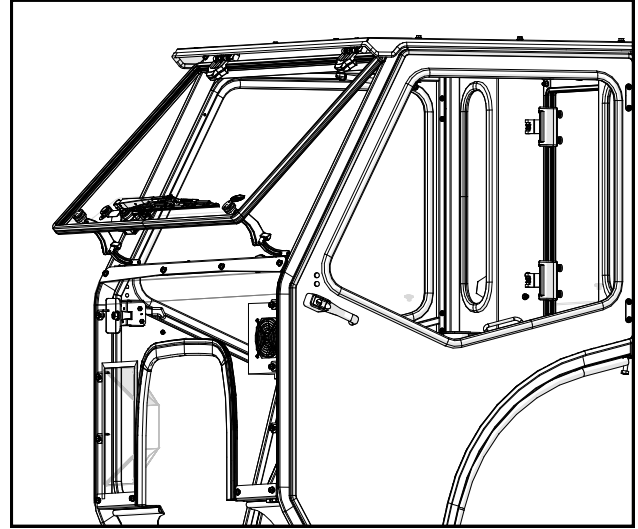

Fig. 26.4 (Install ROPS Mounted Toolbox)
- 26.4** Install the Toolbox Relocation Bracket to the ROPS using the two saved screws from the Toolbox. Install the ROPS Mounted Toolbox to the relocation bracket using two 5/16 x 3/4" screws and nuts. per Figure 26.4.